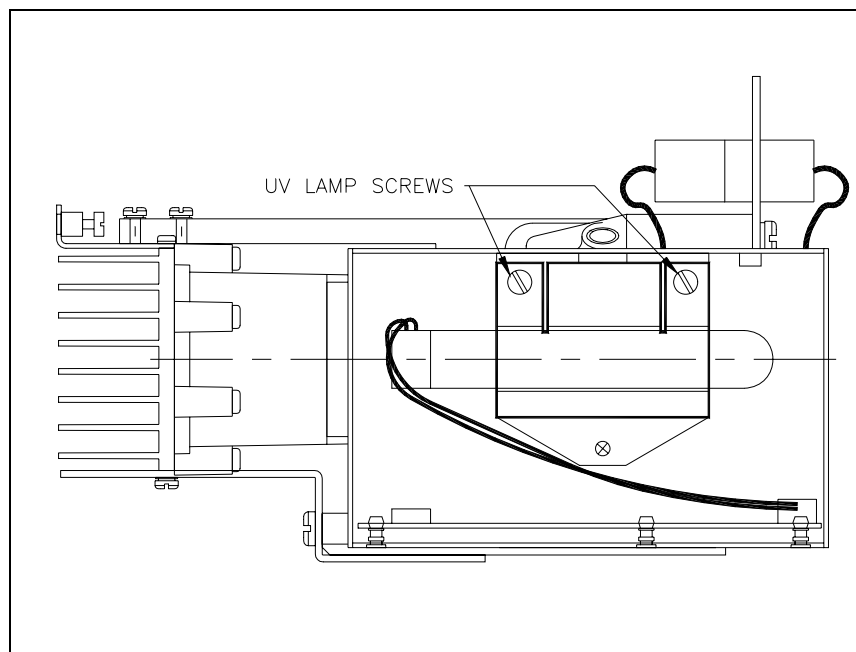

Figure 15. UV Lamp Replacement
4. Loosen (do not remove) the captive screws securing the UV lamp holder to the housing. Refer to Figure 15.
4. Loosen the two captive screws which secure the UV lamp in the holder. Swing down the UV lamp holder and remove the UV lamp from the housing. Refer to Figure 15.